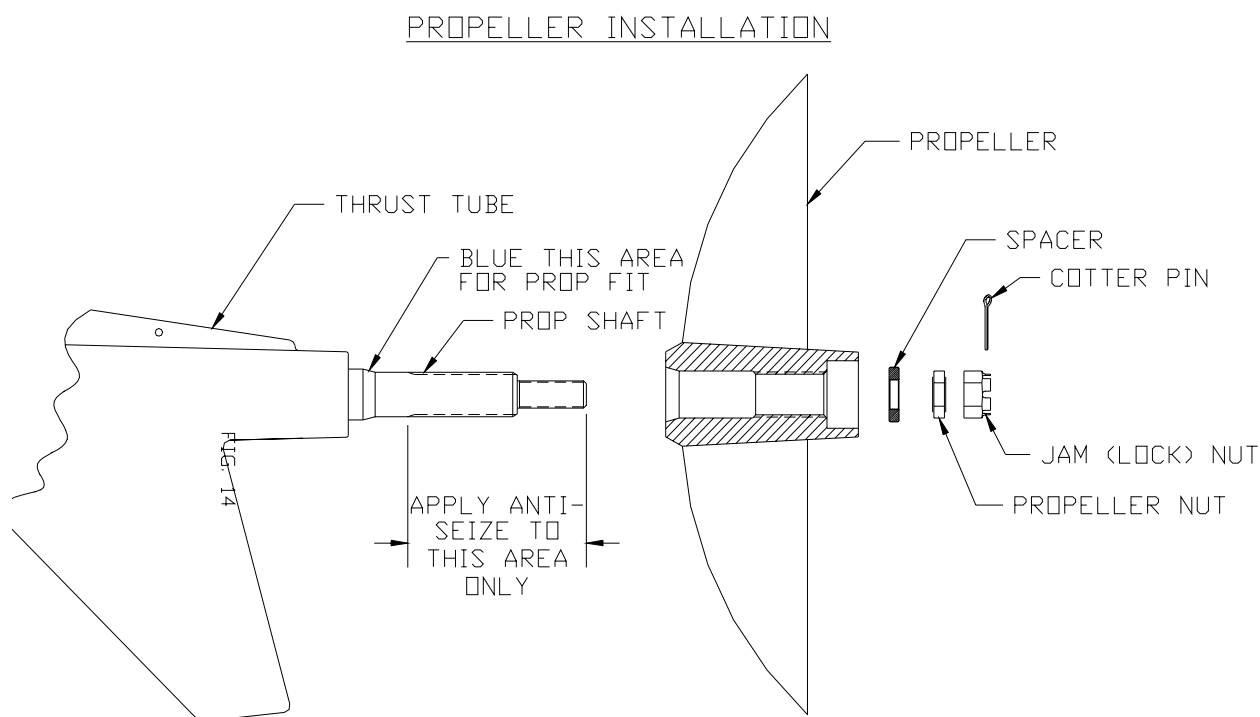

Figure 33. Propeller Installation
1. Apply a thin coat of anti-seize lubricating compound to the propeller shaft as shown in Figure 33.